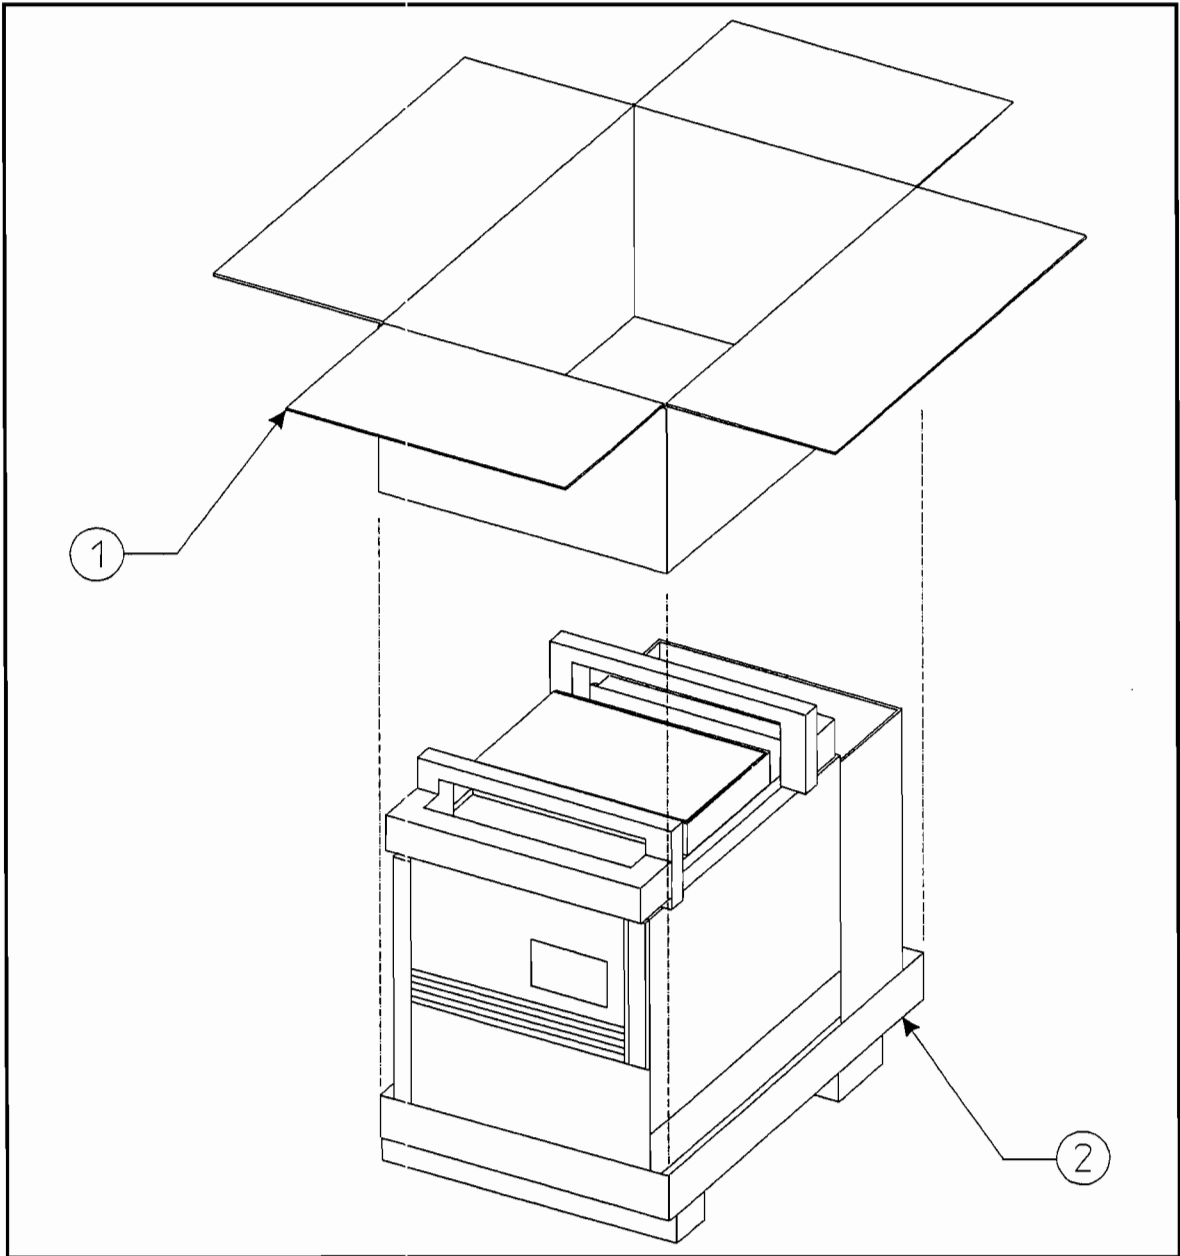

Figure 3-5. Removing the Outer Shipping Box
4. Pull the outer shipping box ① up and off the computer/shipping tray ② assembly. See Figure 3-5.